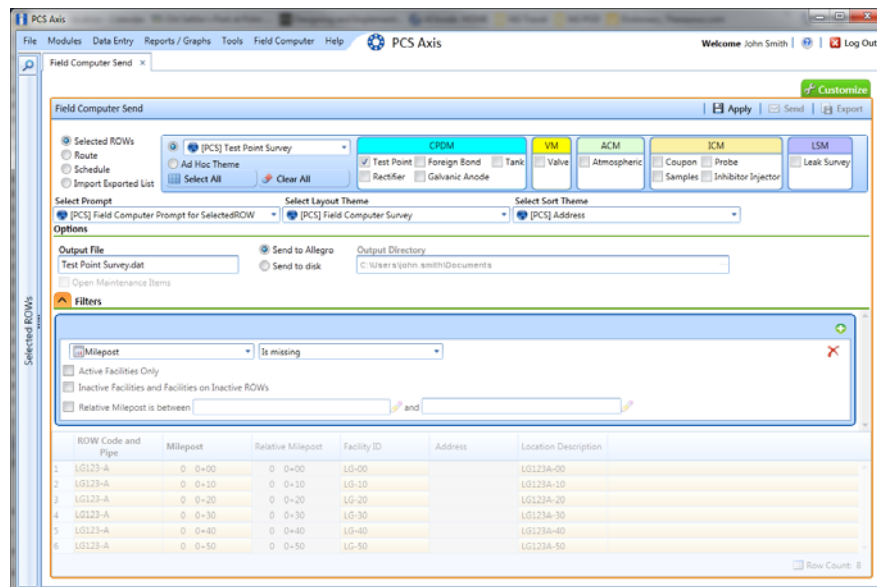

Figure 12-3. New 'And' Filter
- 7 If you want to work with a subset of facility records that meet *all* filter conditions, create an AND filter group using the following steps (Figure 12-3):
- 10 If the check box **Open Maintenance Items** is available for selection, click the check box if you want to include open maintenance records in the survey file (Figure 12-3, page 476).